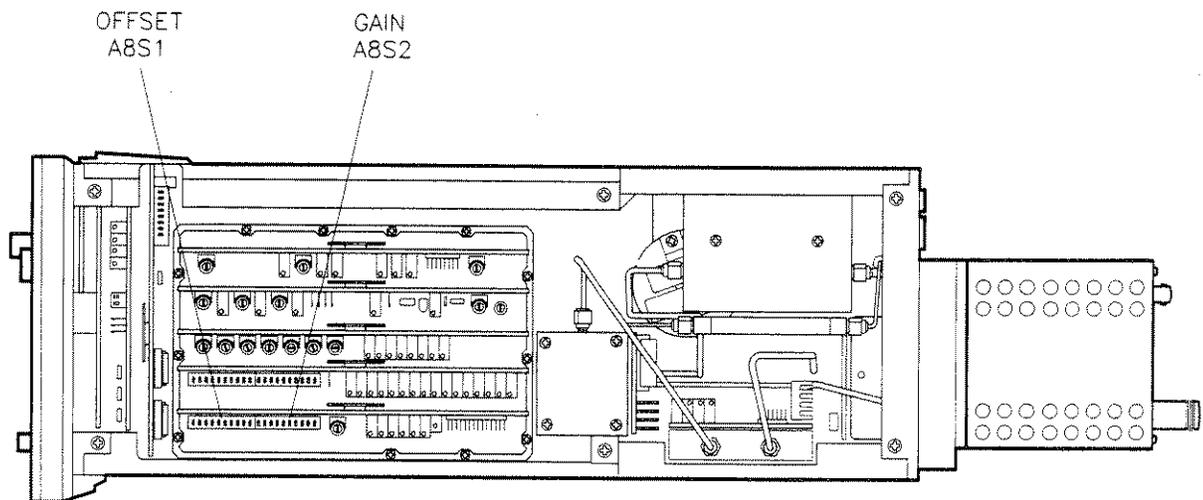
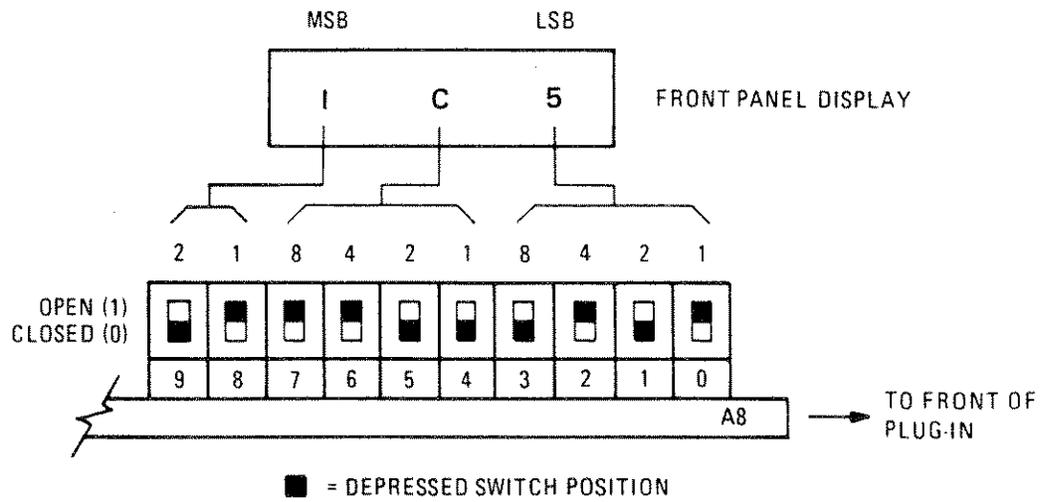

Figure 5-9. Frequency Calibration Adjustment Location
Figure 5-10. A8S1 and A8S2 Frequency Calibration Switch Configuration
7. Set switch A8S1 for the hexadecimal value shown in the plug-in POWER display (see table 8-4 in "Service"). See figure 5-9 for the location of the frequency calibration switches. See figure 5-10 for an illustration of the calibration switch configuration.